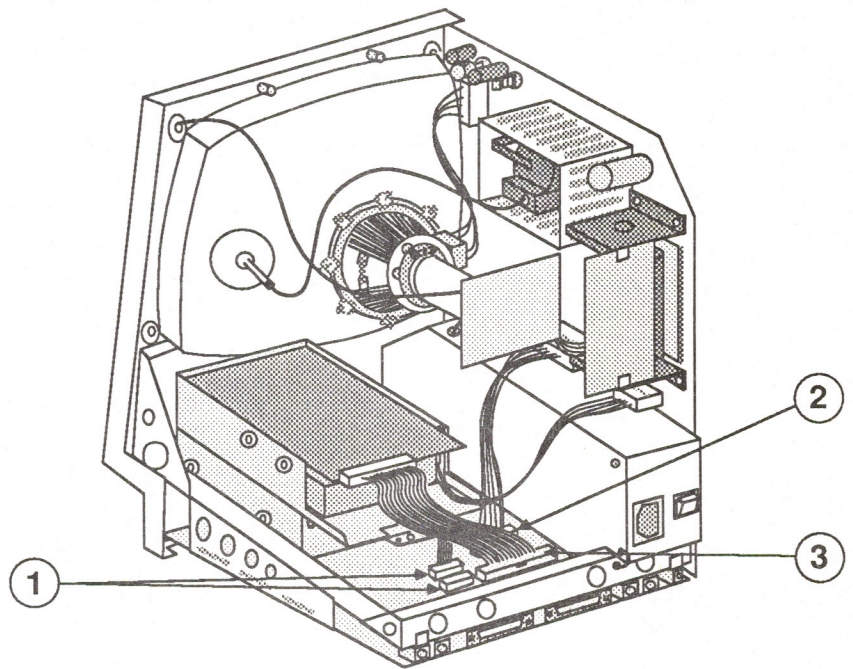

FIGURE 17
- 800K disk drive cable(s) (Figure 17, #1)
- Power supply cable (Figure 17, #2)
- Hard disk drive cable, if present (Figure 17, #3)